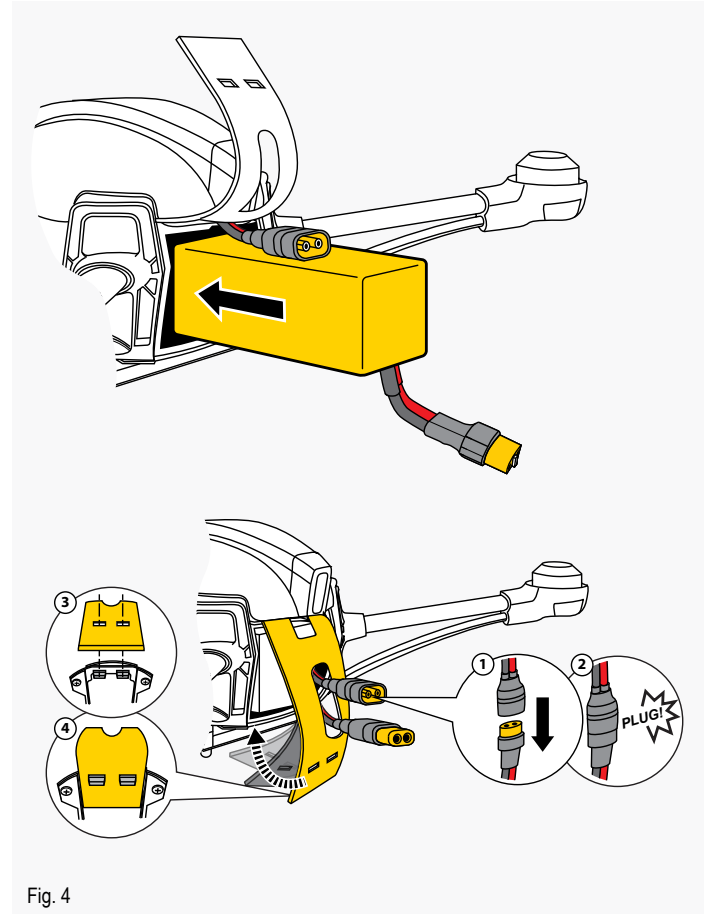

Fig. 4
2. Follow the illustrations in [Fig. 4], showing how to insert and connect the flight battery.